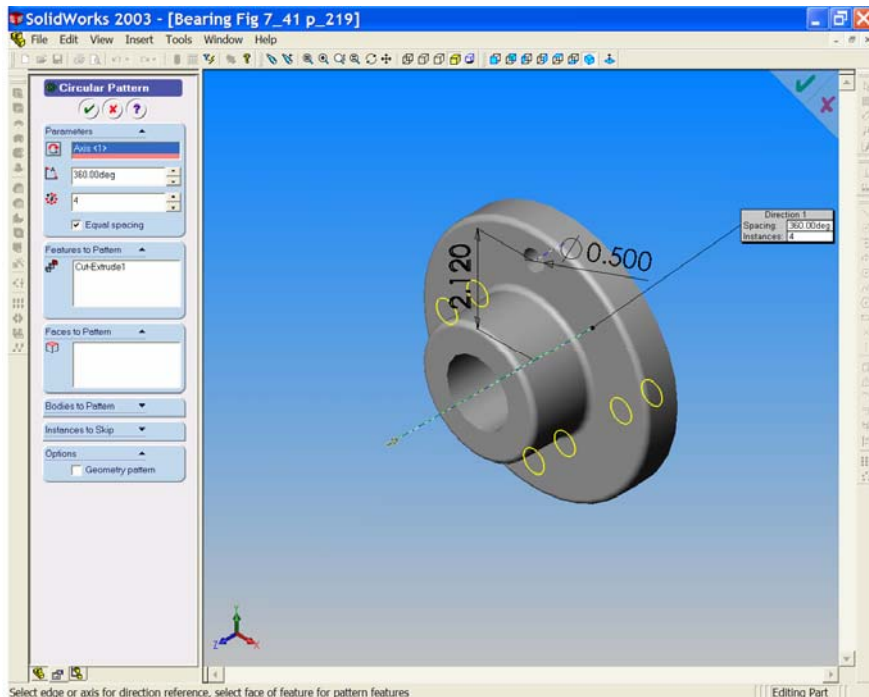

Figure 5
- Turn on 'Temporary Axes' from the 'View' dropdown menu. Select 'Circular Pattern', the Circular Pattern Properties Manager opens with 'Cut-Extrude1 listed in the Features to Pattern field. The 'Pattern Axis' field is pink; select the temporary axis that passes through the flange bore. Axis <1> is now listed and a preview of the patterned features is shown on screen. Increase the number of instances from 2 to 4 by using the 'up arrow'. Notice the preview changing as the value changes. Select OK See Figure 5.